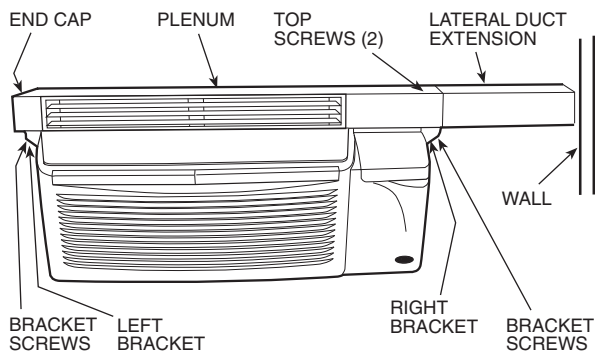

FIGURE 8 — PTAC UNIT WITH LATERAL DUCT ACCESSORY INSTALLED
1. Remove the 2 top screws that secure the lateral duct plenum to the top of the lateral duct extension. See Figure 8.
2. Locate and remove the 2 bottom bracket screws (located opposite extension duct) that secure the lateral duct plenum to the bracket flange. See Figure 8.